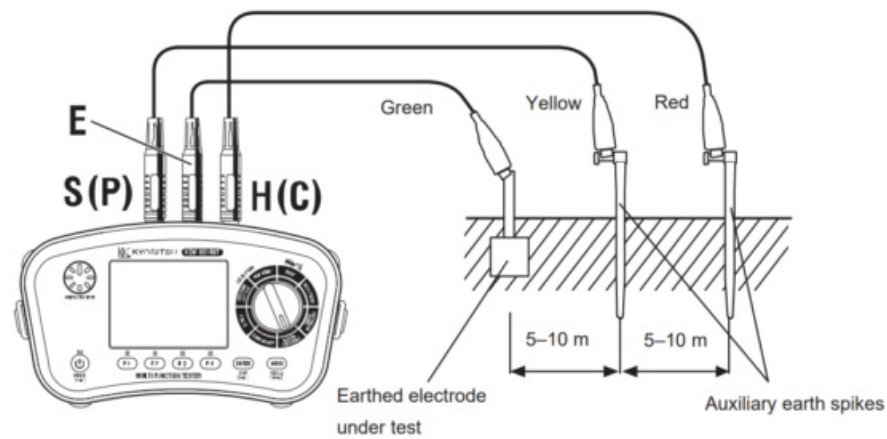

Fig. 11-6
Connect the precision measurement test leads to the E, S(P) and H(C) terminals on the instrument respectively as shown in Fig. 11-6, and then connect the test leads (green, yellow, and red) to the earthed electrode under test (E) and auxiliary earth spike S(P) and H(C) in order.